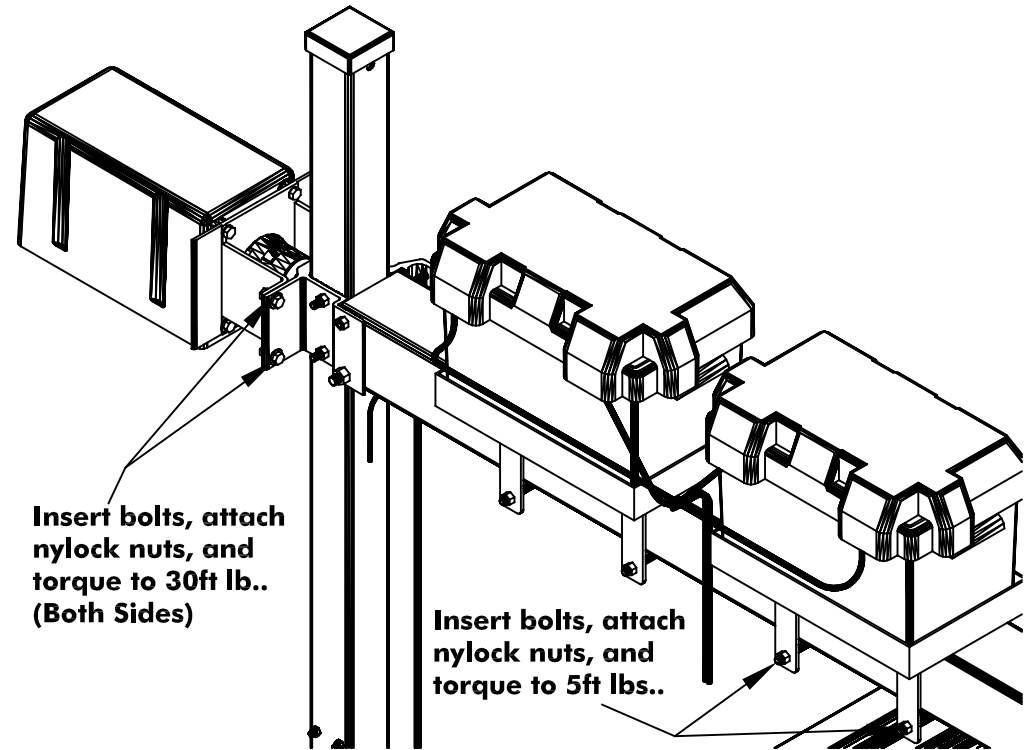

Fig. 1b
Step 4: Align the Love joy of the new drive unit with the Love joy of the ball screw making sure that the saved Hytrel spider is positioned between the two mating couplers. Fasten the drive unit with the saved nuts, bolts, and washers. Torque the bolts to 30 ft lb.. As shown in fig 1b.
Step 5: Position the additional battery tray on the ball screw tube as shown in fig 1b. and insert the two $\frac{3}{8}$ " X $5\frac{1}{2}$ " bolts and torque to 5 ft lb..